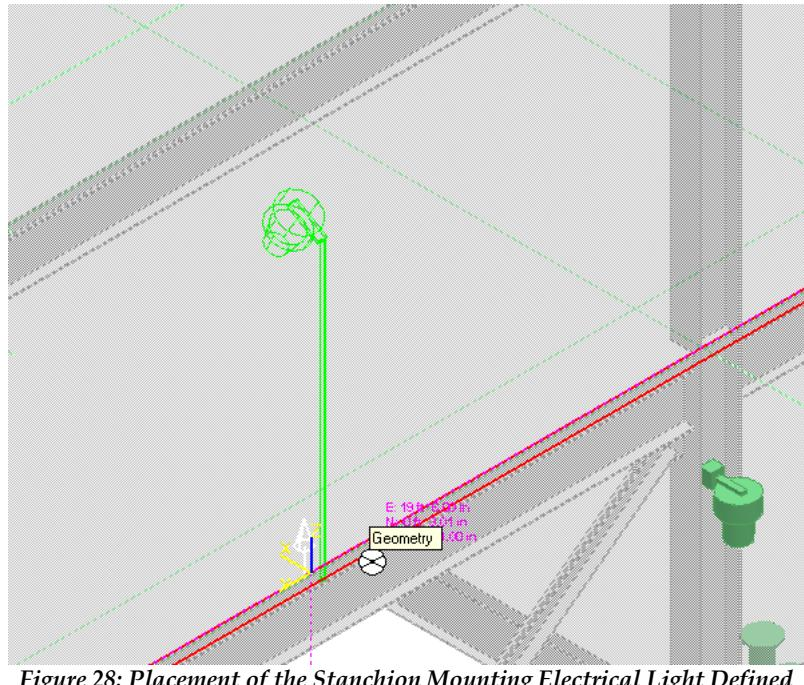

Figure 28: Placement of the Stanchion Mounting Electrical Light Defined
20. On the **PinPoint** ribbon, key in **19 ft 6 in** in the **E** drop-down list to define the placement point, as shown in Figure 28.